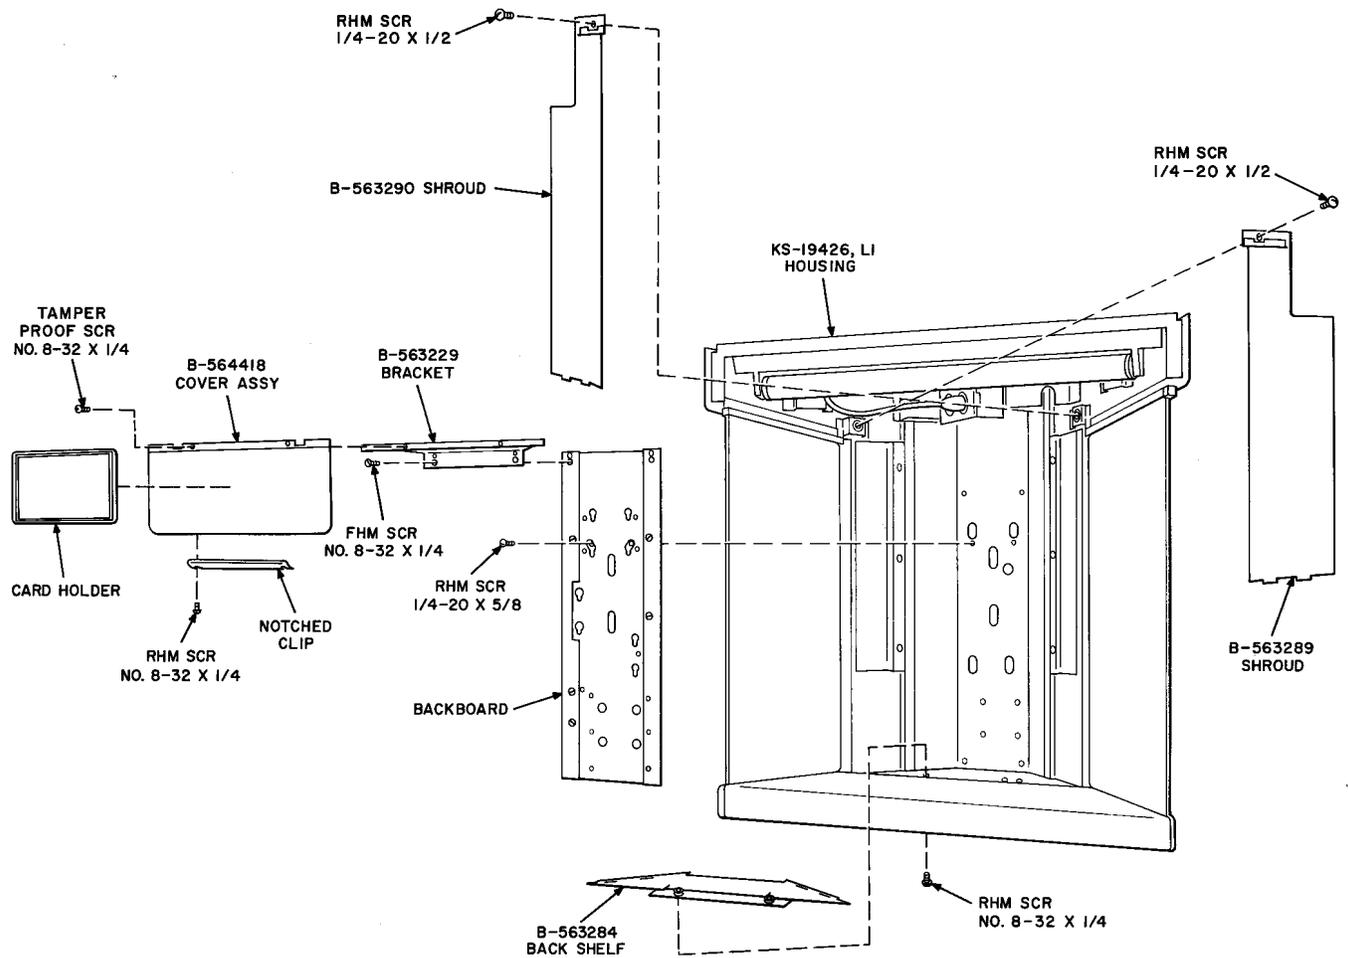

Fig. 9—KS-19426, L8 Installation Kit
**2.12 List 8 Installation Kit:** If a 200-type coin collector is used, install KS-19426, List 8 installation kit (Fig. 9) as follows:
**2.13 List 18 Cardholder:** If a List 18 cardholder is required for the 200-type coin collector install as follows (Fig. 9):